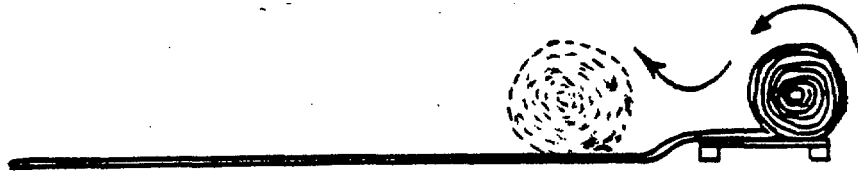
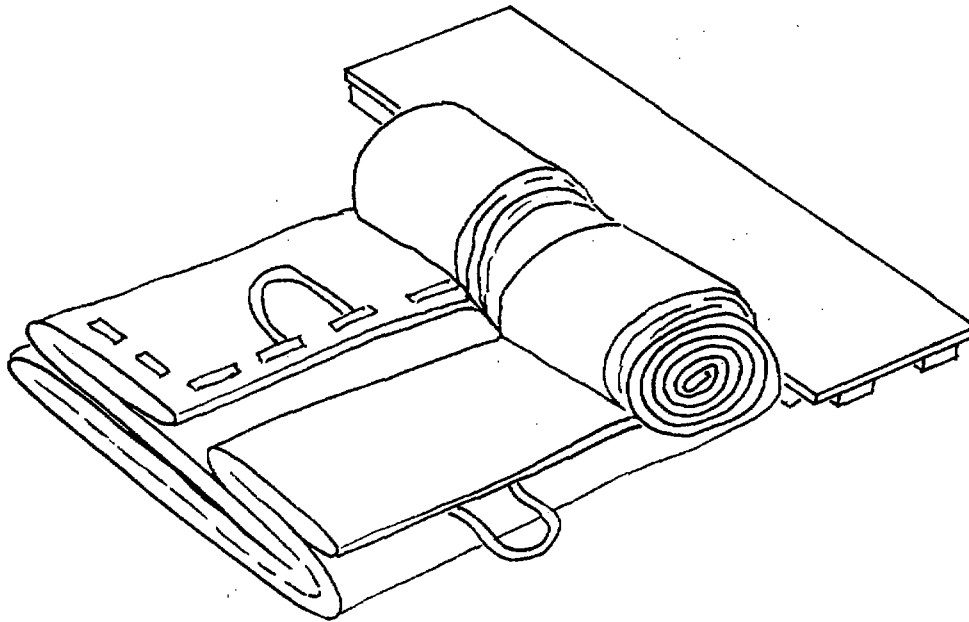

Figure 2-4. Rolling Tank Off Skid
Figure 2-5. Removing Skid
- j. Roll remaining section off shipping skid toward the unrolled section. (See Figure 2-4.) When skid is free from tank, remove skid and place skid outside site area. (See Figure 2-5).